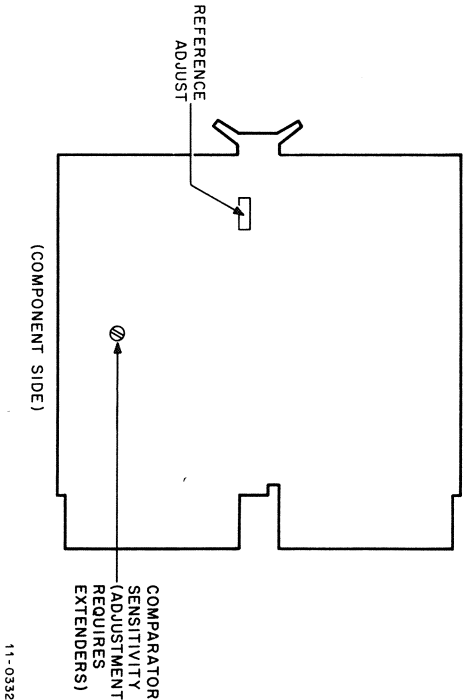

Figure 2-2 A812 A/D Converter
- Adjust comparator sensitivity potentiometer (see Figure 2-2) for 000 000g to 000 001g on console DATA indicators. (Adjust for 001 777g to 001 776g if AH04 is installed.)